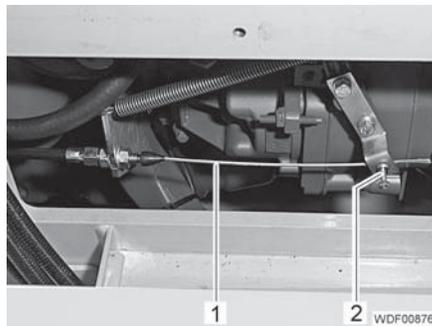

Fig. 18 Accelerator cable
- Remove the accelerator cable (Fig. 18,1).